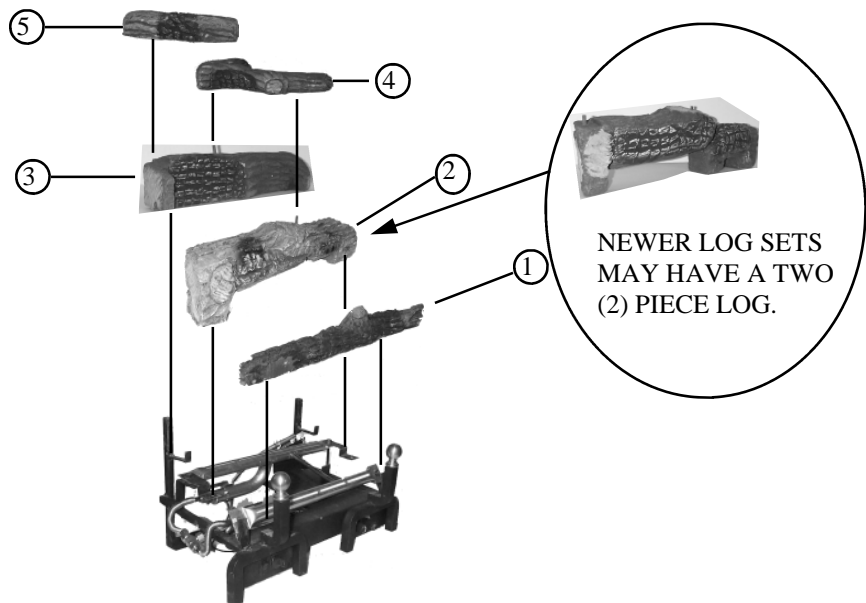

Figure 3
**LOG PLACEMENT FOR MODEL 24 (FIBER) LOG SETS (See Figure 3.)**